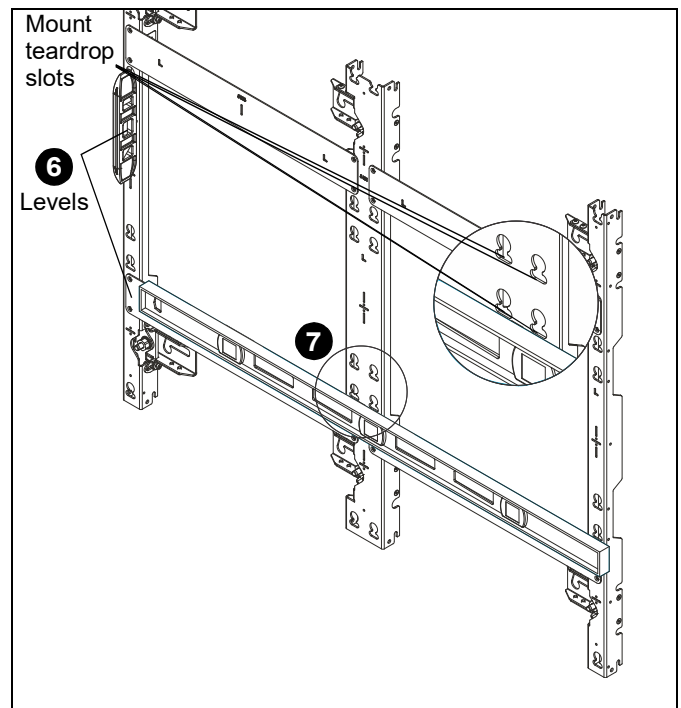

Figure 10
6. Place a level across front of the mount at bottom of teardrop slots. (See Figure 10)
7. Check the level of the mount at the bottom of the teardrop slots. (See Figure 10)